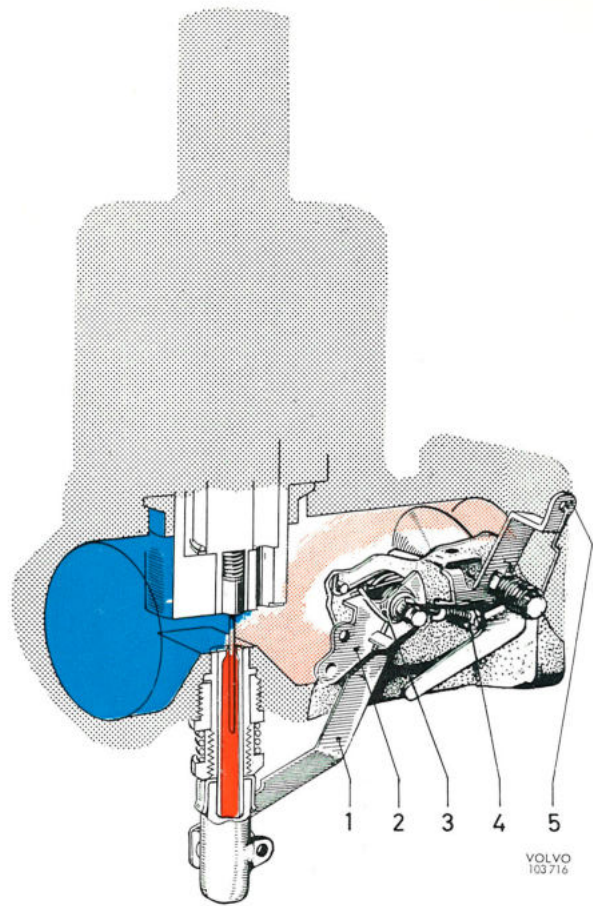

Fig. 2-84. Carburettor, fast idle
the choke control of the instrument panel. Since the metering needle is tapered, the cross-sectional area for the fuel flow increases when the jet is lowered. When the choke control is pulled out, the outer end of the lever (3) is pressed downwards and operates the jet so that this is also pressed down. In addition, the fast idling screw is operated by the cam on the lever (2, Fig. 2-84) and the throttle flap opens slightly.
When the choke control is pulled out, the throttle flap is operated. One end of the lever (2, Fig. 2-84) is in the form of a cam which presses on the fast idle stop screw (4) whereby the throttle flap is opened. This means that the engine runs at a faster idling speed during the time the choke control is pulled out.